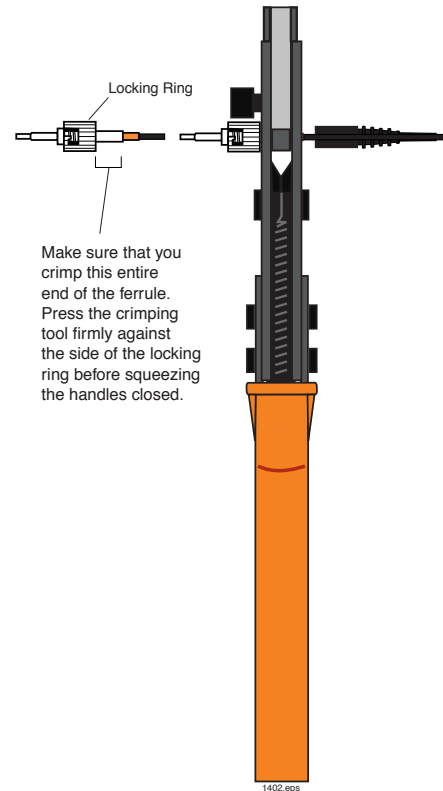

Figure 17. Position of the ST connector in crimping tool for proper crimp.
13. Place the large end of the ferrule in the 0.128 inch hex hole as shown in Figure 17 and slowly squeeze the handles of the crimp tool until the jaws just make contact with it. Do not apply any further pressure on the handles.